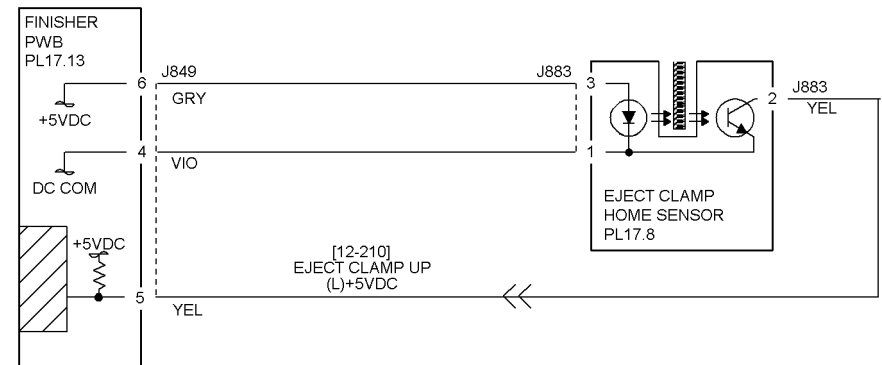
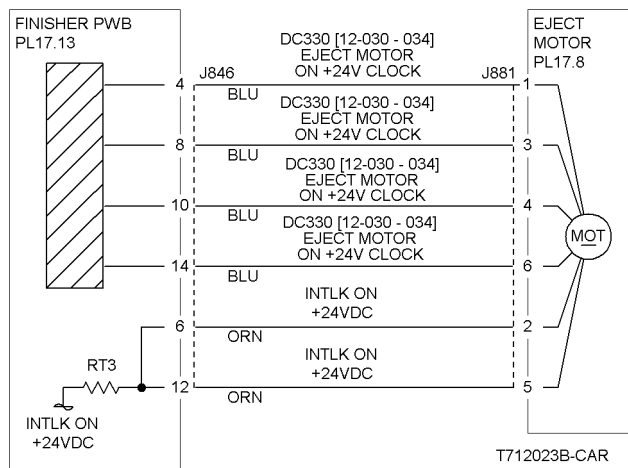

Figure 2 12-262 RAP Circuit Diagram - Eject Clamp Home Sensor
Figure 3 12-262 RAP Circuit Diagram - Eject Motor
- Ensure that the connectors shown in the circuit diagrams (Figure 2, Figure 3) are securely connected and that the wires are not damaged.